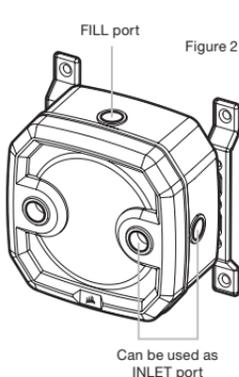

Figure 2
2. It is mandatory to use the front-left port as the OUTLET. The recommended INLET (return) port is marked on the image below. Optionally, you can use the top G1/4 port as an INLET (return) line as well (Figure 2 and 3).
3. Install the CORSAIR G1/4 Temperature Sensor Plug (F) into the G1/4 port located on the base of the unit. Do not install the temperature sensor on any of the top ports.
4. Close the remaining three (3) open (unused) ports with the included CORSAIR G1/4 plugs and tighten them using a plug tool (L). Refrain from using a screwdriver as it may result in damage to the surface of the plugs.